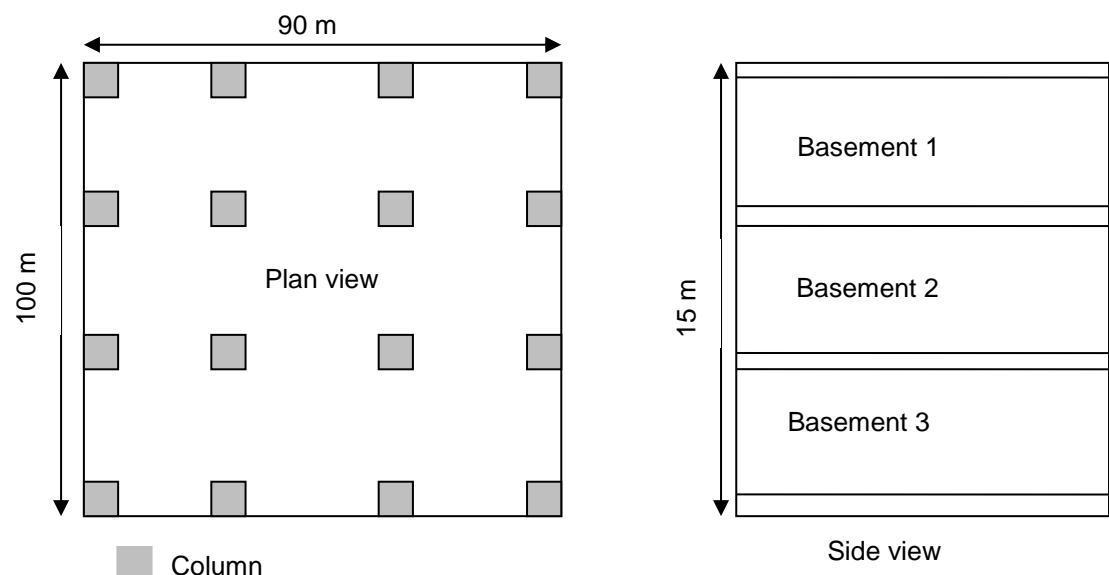

Figure 2 / Rajah 2
5. [a] An excavator is engaged to remove the soil from basement area and discharging directly into haulage vehicles. Based on **Figure 2** and the information given, estimate the number of days required to complete the excavation work. Determine the number of haulage vehicles required to ensure that the excavator is fully utilized in one day. Explain the top down construction method based on the construction activities mentioned above. (Assume the slab is without openings).
- Net volume of excavation, (calculated from Figure 2, m³)